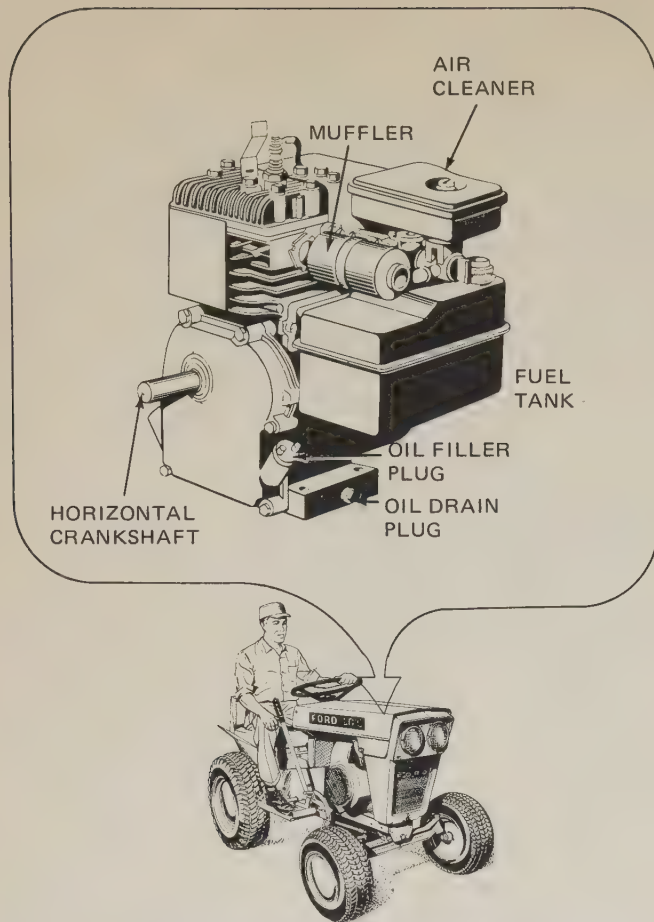

FIG. 11-17 Some small engines have a horizontal crankshaft such as this one used in a riding mower.
2. Horizontal position, as shown in Fig. 11-17
Another distinguishing feature is that in the four-cycle engine, the muffler is installed at the head end of the cylinder close to the exhaust-valve location. You can see the muffler location in Fig. 11-17. The muffler on the two-cycle engine is installed toward the middle of the cylinder, at the exhaust-port location. Notice the location of the muffler on the power-lawnmower engine shown in Fig. 9-21.